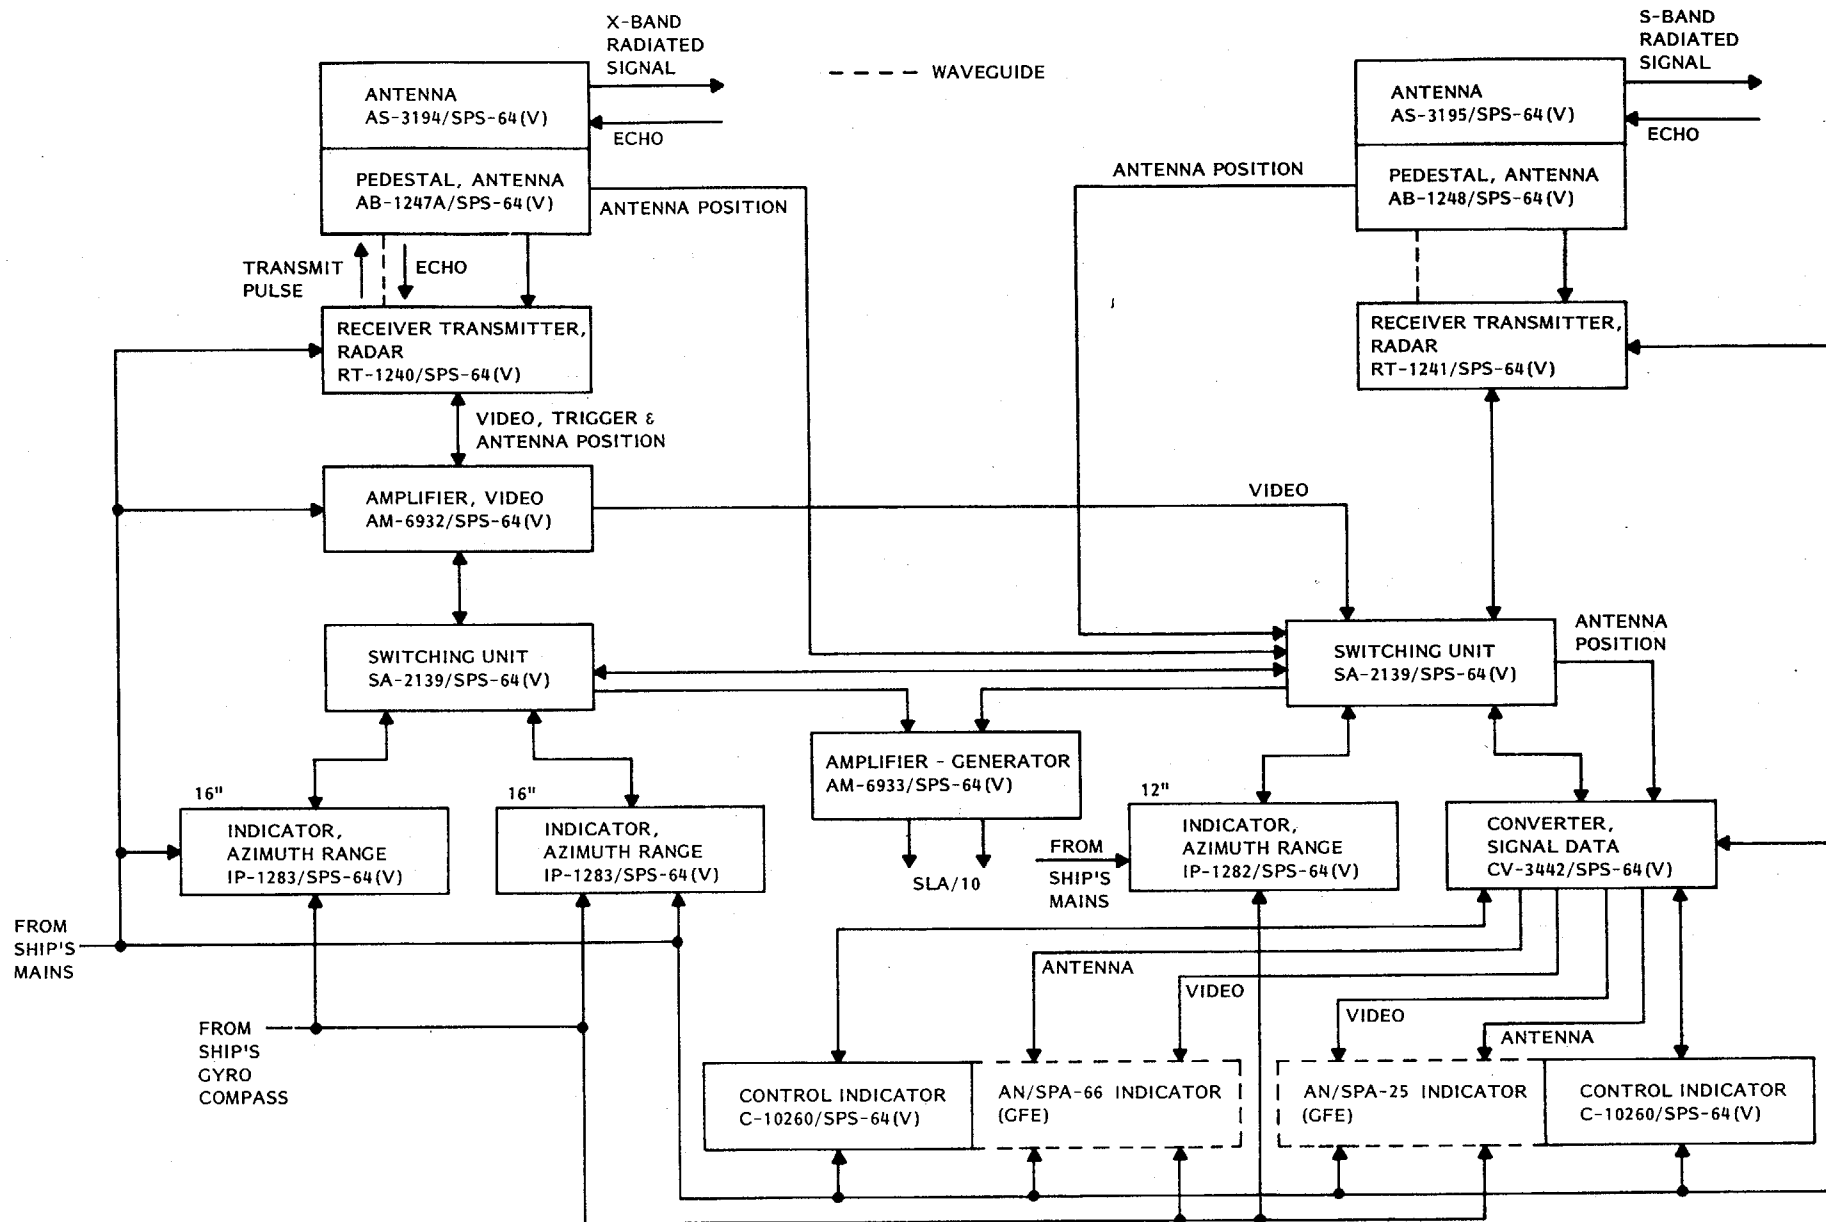

Figure 1-9 Radar Set AN/SPS-64(V) 4 Block Diagram
Figure 1-9 is a block diagram showing the major components of Radar Set AN/SPS-64(V)4. This radar set operates at X-band, 9420+7 MHz (tunable from 9405 to 9435 MHz) with a peak pulse power output of 20 kW and pulse widths of 0.06, 0.5, and 1 microsecond. The AN/SPS-64(V) 4 also operates at S-band (fixed frequency 3050 + 25 MHz) with a peak pulse power output of 50 kW (+10 kW) and pulse widths of 0.06, 0.5, and 1 microsecond. Target echoes, fixed marks and the ship's heading flash are displayed on three daylight view azimuth range indicators (plan position display).